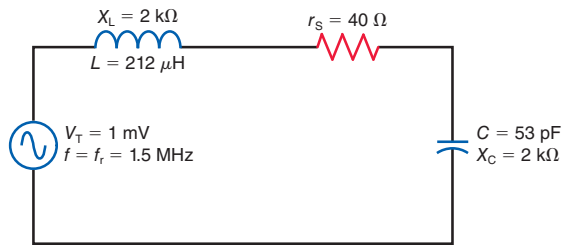
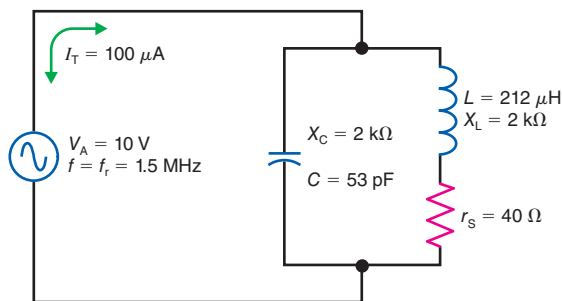

Figure 22-15
Figure 22-16
- 22.4 Figure 22-15 shows a series resonant circuit with the values of X_L and X_C at f_r . Calculate the
- 22.5 In Fig. 22-15, what happens to Z_T and I if the frequency of the applied voltage increases or decreases from the resonant frequency, f_r ? Explain your answer.
- 22.6 In Fig. 22-15, why is the phase angle, θ , 0° at f_r ?
- 22.7 Figure 22-16, shows a parallel resonant circuit with the same values for X_L , X_C , and r_s as in Fig. 22-15. With an applied voltage of 10 V and a total line current, I_T , of 100 μA , calculate the
- 22.8 In Fig. 22-16, what happens to Z_{EQ} and I_T as the frequency of the applied voltage increases or decreases from the resonant frequency, f_r ? Explain your answer.